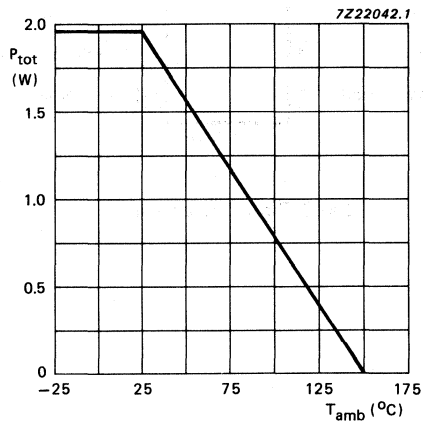

Fig.4 Power derating curve.
- All parameters are measured in the application circuit (see Fig.4) at nominal supply voltage $V_p = 3$ V; $T_{amb} = 25$ °C; unless otherwise specified. RF conditions: Input frequency 1 MHz; 30% modulated with $f_{mod} = 1$ kHz; unless otherwise specified.
- All parameters are measured in the application circuit (see Fig.4) at nominal supply voltage $V_p = 3$ V; $T_{amb} = 25$ °C; unless otherwise specified. RF conditions: Input frequency 100 MHz; frequency deviation $\Delta f = 22.5$ kHz and $f_{mod} = 1$ kHz; unless otherwise specified.
| Total power dissipation | | P_{tot} | see Fig.4 | | |